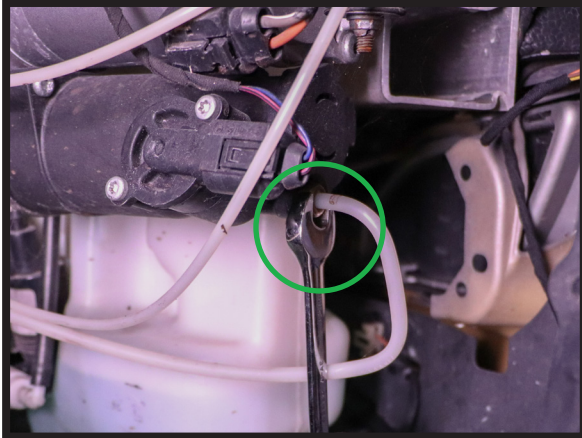

FIGURE 3
5. LOCATE AND SLOWLY REMOVE THE AIR LINE FROM THE COMPRESSOR. (FIGURES 3, 4)